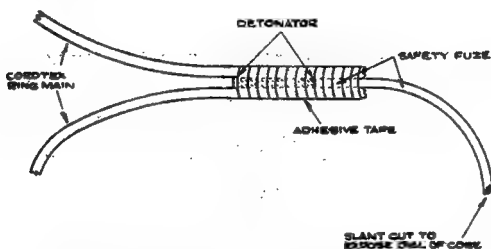

Fig 18.—Assembling detonator and safety fuze to ring main
26. *Assembling detonator and safety fuze.*—One detonator No. 27 Mk 1 is required for each gun pit. Lash the detonator between the ends of the ring main as in Fig 18. Note that the open end of the detonator should point in the same direction as the ends of the ring main.